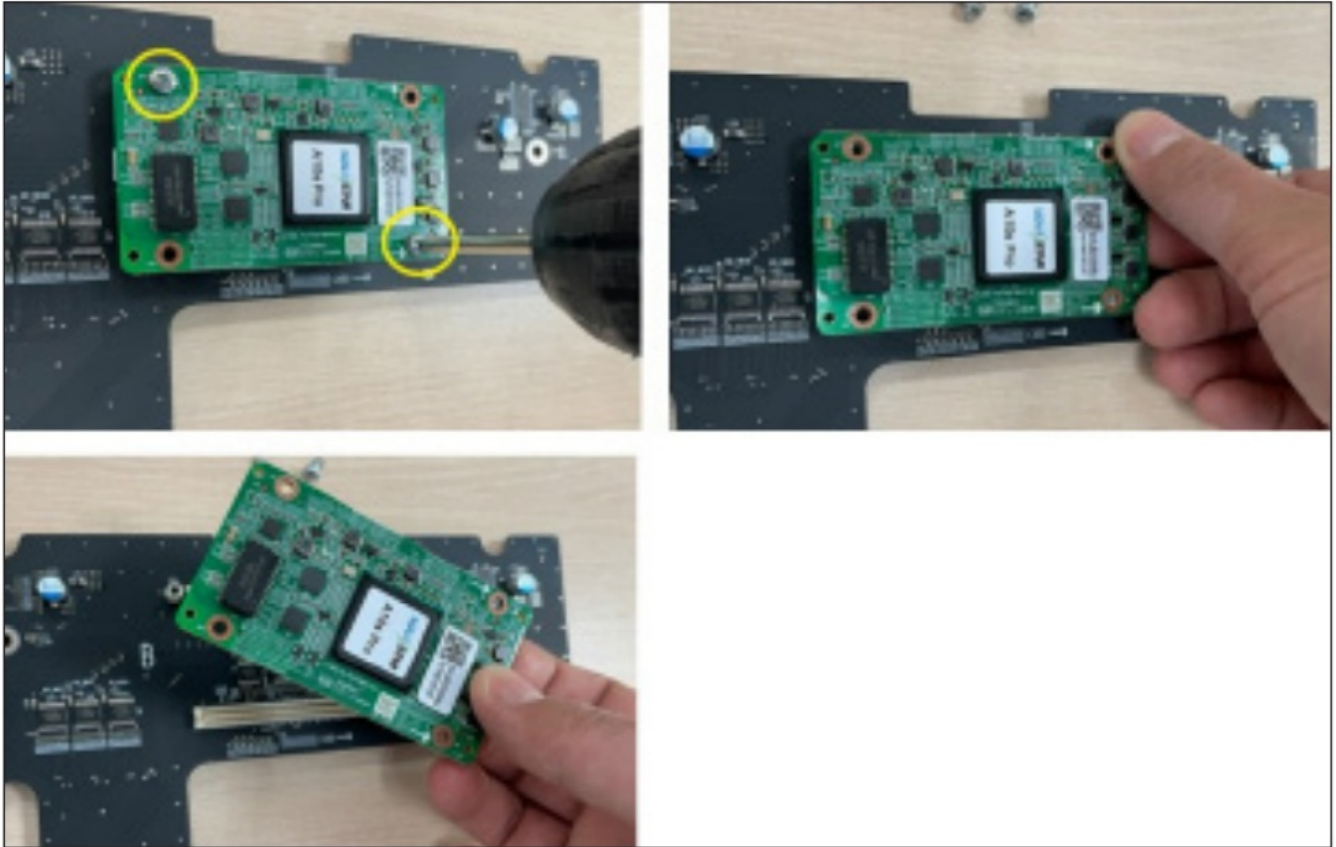

Figure 7: Remove the Receiver Card
4. Remove the two screws to release the receiver card. Refer to Figure 7.